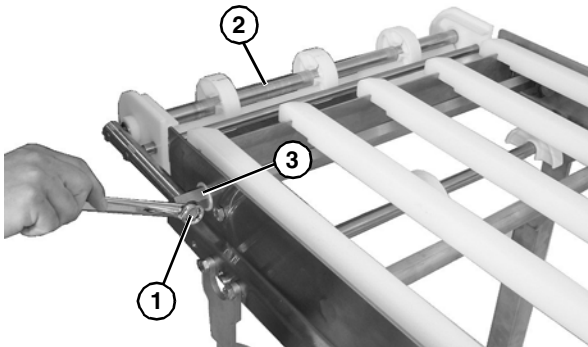

Figure 57
1. Remove bolt (**Figure 57, item 1**) from each side, and remove idler tail assembly (**Figure 57, item 2**) from take up blocks (**Figure 57, item 3**).